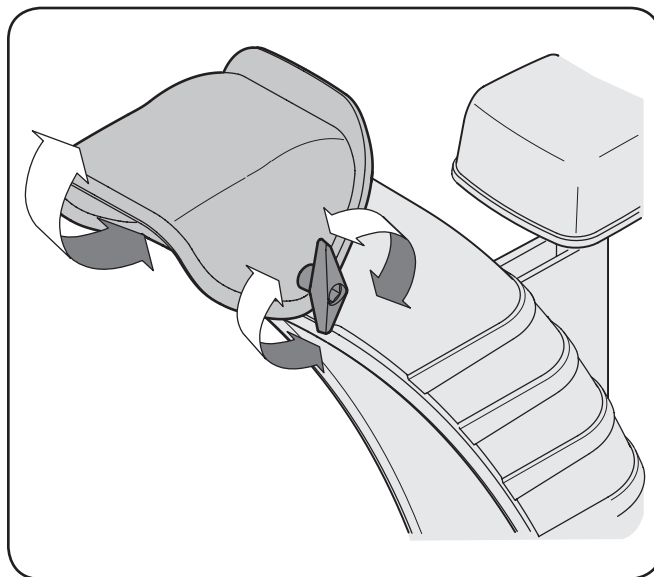

Figure 3-13
3. Pivot the chute upward or downward before retightening the wing knob. See Fig. 3-13.